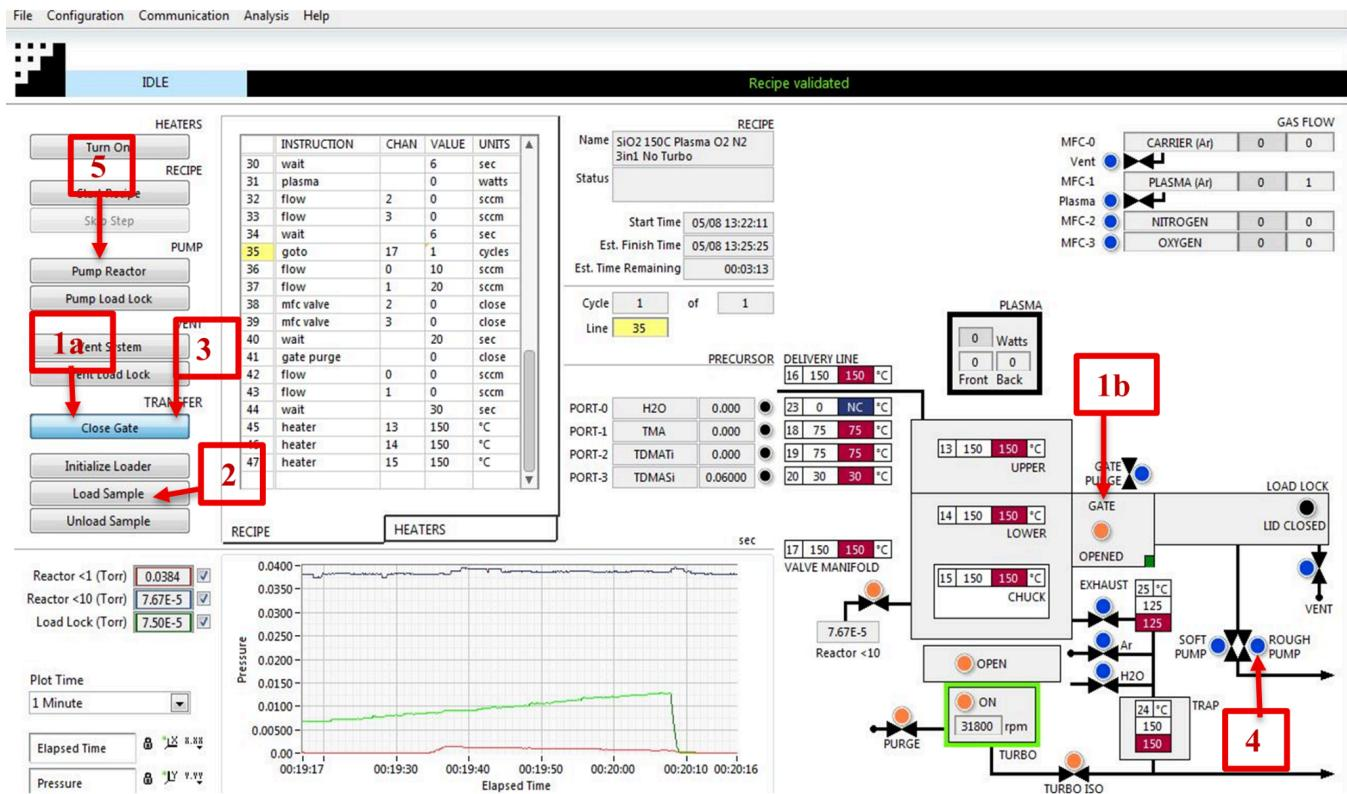

Figure 6, Loading and pumping reactor sequences
1. Open the gate valve by clicking either the **Open Gate** tap or **BLUE** button (Blue color means Closed and Orange means Open) [**step 1a or 1b**]. (**Figure 6**)
- ◆ If the pressure graph during your recipe does not look like the graph in Figure 6.